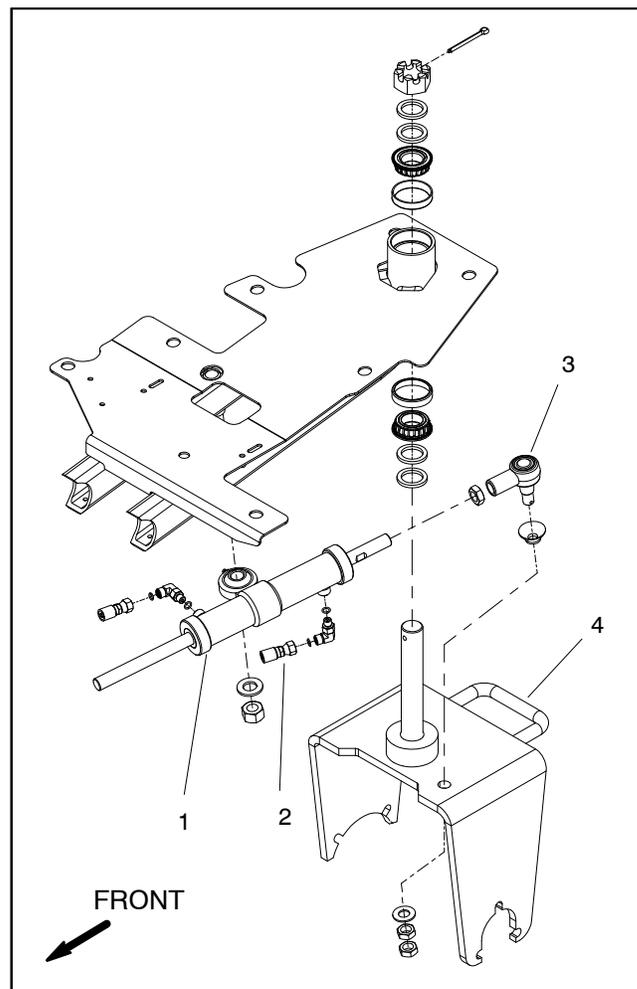

Figure 31
- E. Remove hydraulic hose from the 90° fitting on the rod end of the steering cylinder (Fig. 31). Install steel plug in the end of the hose.